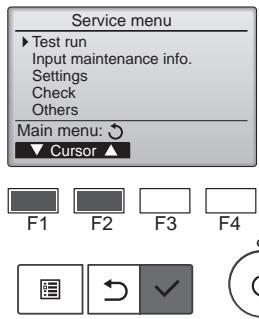

Fig. 7-3
- ③ Select "Test run" with the **F1** or **F2** button, and press the button. (Fig. 7-3)